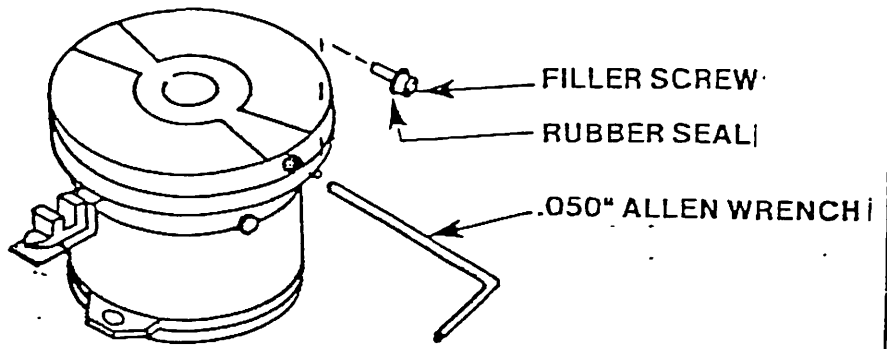

FIGURE 1. DAMPER REMOVAL
3. Position damper to provide access to filler screw. (figure 1) Since the motor is energized, some resistance will be felt approximately every 1/8 inch of motor rotation while turning damper.